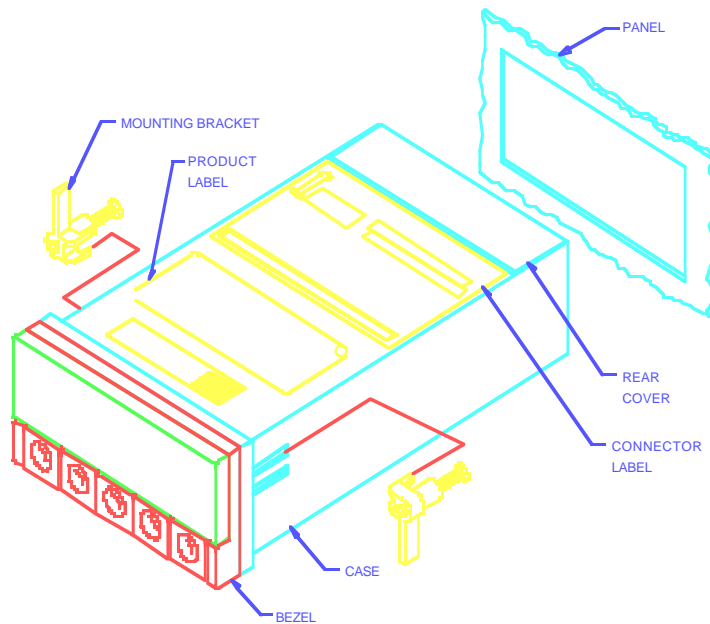
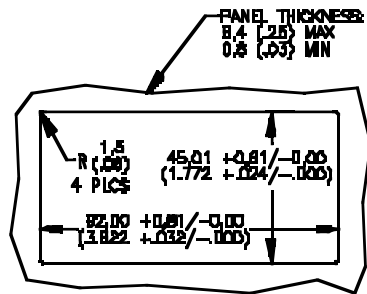

Figure 3-3. Meter - Exploded View
Figure 3-4. Panel Cut-Out
1. Cut a hole in your panel, as shown in Figure 3-3. For specific dimensions refer to Figure 3-4.